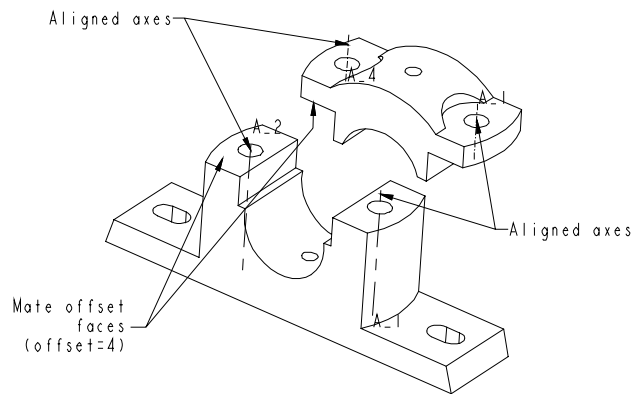

Figure 9-63 Constraints used for assembling the components
11. Align the axis of the right hole on the Casting with the axis of the right hole on the Cap by selecting them as shown in Figure 9-63. The **Placement Status** area shows **Fully Constrained**. Choose **OK** to exit the **Component Placement** dialog box.